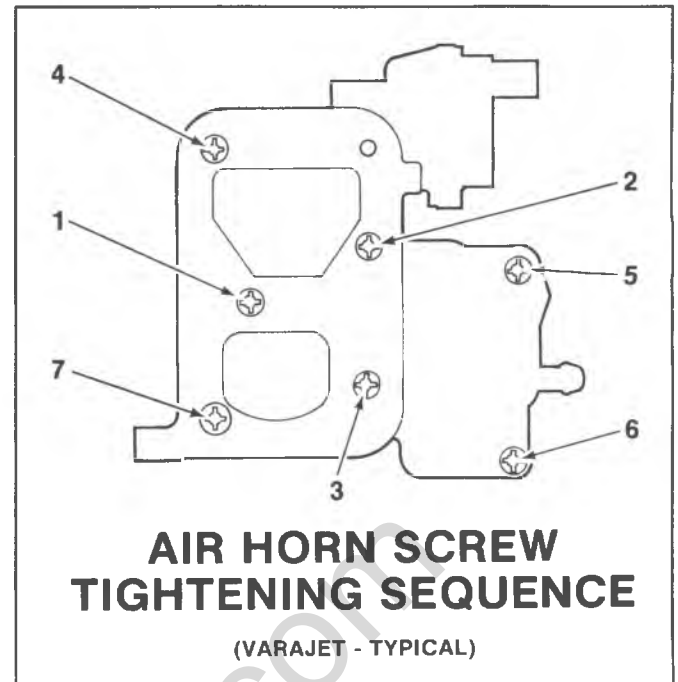

Fig. 6C2-39--Air Horn Tightening Sequence
1. Rotate fast idle cam to the full UP position and tilt the air horn assembly to engage lower end of fast idle cam rod in slot in fast idle cam (Fig. 6C2-24); then, holding down on the pump plunger assembly, carefully lower air horn assembly onto float bowl, guiding pump plunger stem through hole in air horn casting. Do not force air horn assembly onto bowl, but rather lightly lower in place.
2. Install vent and screen assembly on air horn assembly located in area between the primary and secondary bores (Fig. 6C2-23). Then, install (7) air horn to bowl attaching screws and lockwashers. (4) long air horn screws are located in the primary and secondary venturi area of which (2) longer screws hold the vent and screen assembly in place and one (1) larger head screw goes next to the choke valve on the primary side. In addition (2) short screws are located on the fuel inlet side; and (1) short screw is located in the area beneath the hot idle compensator valve. All air horn screws must be tightened evenly and securely. See Fig. 6C2-39 for proper tightening sequence.
3. If equipped, install new seal in recess of float bowl; then install hot idle compensator valve and retain with (2) small attaching screws. Tighten screws securely.
7. Rotate solenoid bracket and insert end of secondary side vacuum break rod into upper slot of vacuum break lever. Install bracket on throttle body and install countersunk screws. Tighten screws securely (Fig. 6C2-20).
9. Rotate primary side vacuum break bracket to engage vacuum break and air valve rods in vacuum break and in air valve lever, positioning bracket over locating lug on air horn. Install (2) countersunk screws and tighten securely (Fig. 6C2-20).
10. Install pump rod in hole in pump lever by rotating lever (Fig. 6C2-19). Install retaining screw in pump lever, then install washer and pump lever to air horn. Then, holding down on pump plunger stem, install pump lever to air horn with retaining screw. Make sure shoulder on screw seats in hole in lever and goes between lever and air horn casting. Holding down pump plunger stem, install pump lever on air horn. Tighten screw securely.